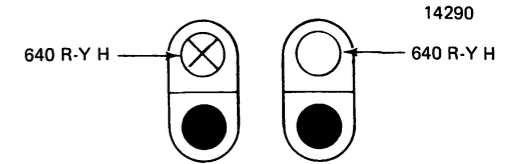

Fig. 3 – Harness Number
- Harness number is shown in Figure 3. The 5 or 6 digit number near the wire indicates the wire harness basic part number.